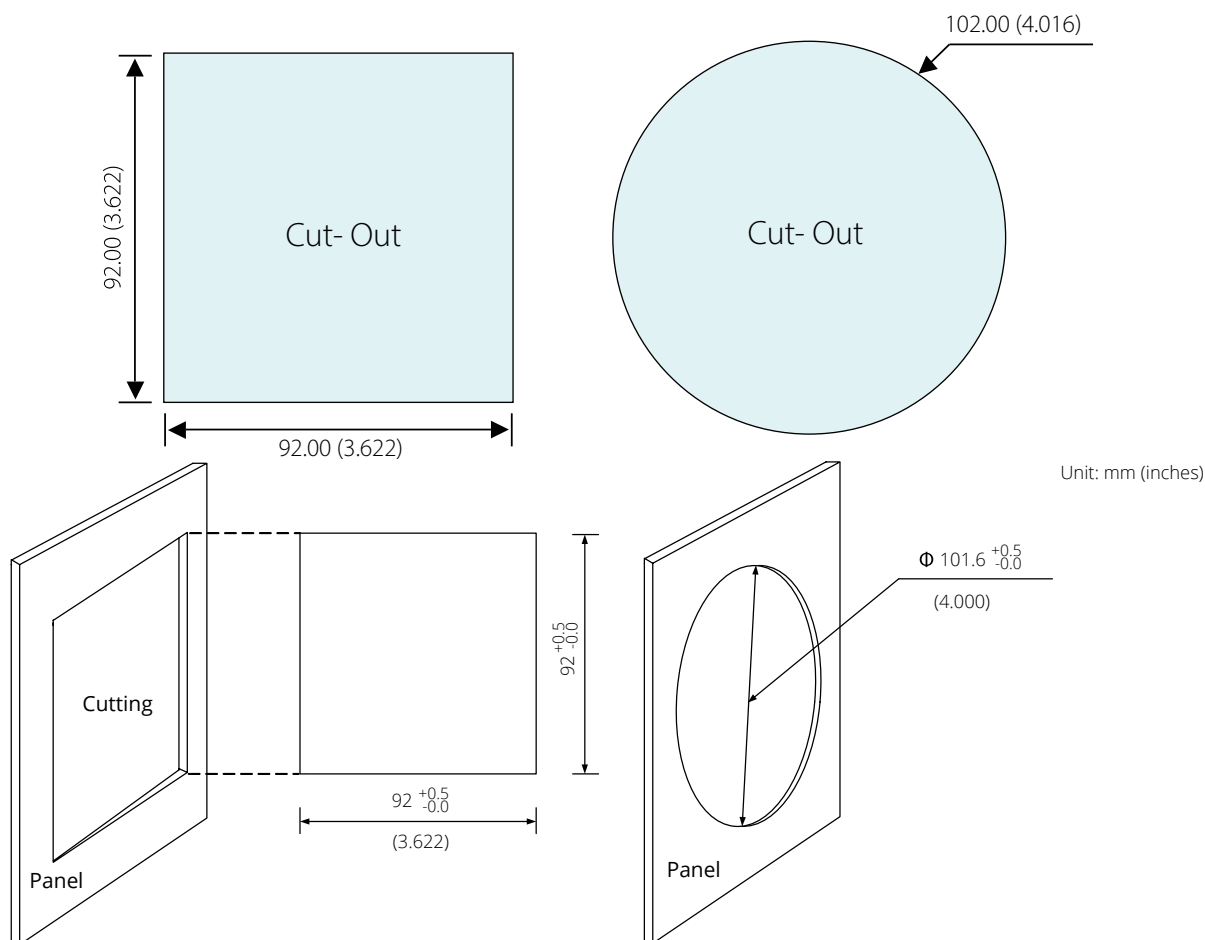

Figure 2-11 Panel Cutout
1. Cut a square hole or round hole on the panel of the switch gear. The cutting size can be seen in Figure 2-11.